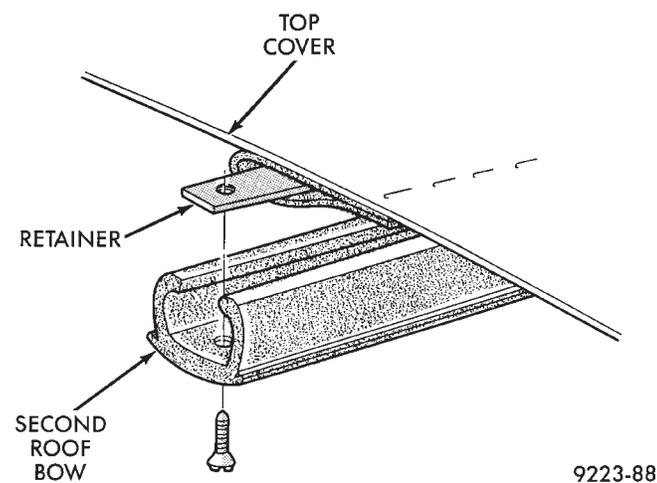

Fig. 9 Second Roof Bow Retainer
- (4) Remove screws holding second roof bow to top cover listing retainer (Fig. 9).
- (5) Remove staples holding stay pads to second roof bow.
- (6) Separate second roof bow from top frame.